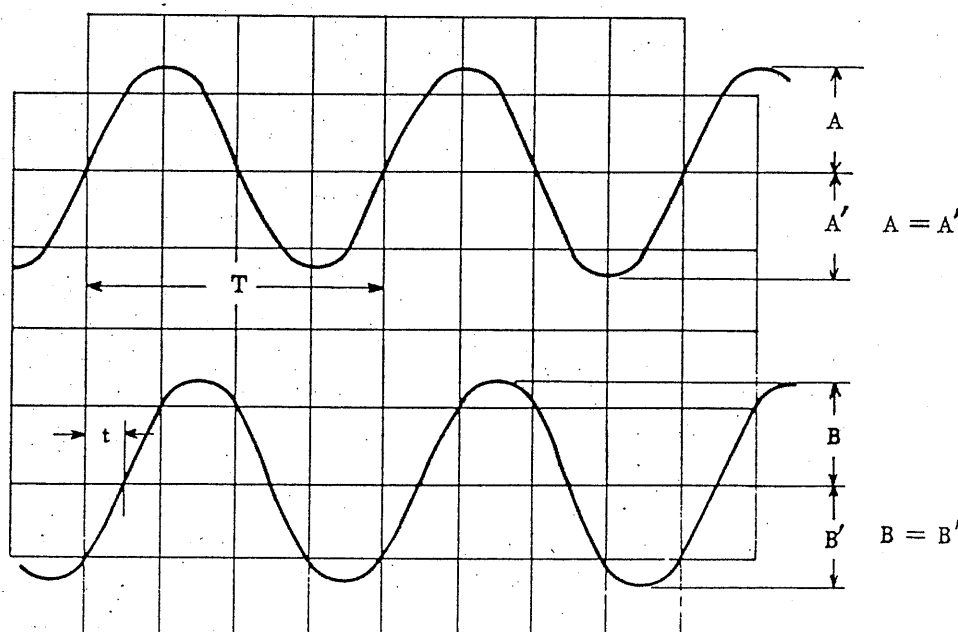

Fig. 20
Set the MODE switch in the DUAL state (10), and connect to CH1 the signal to be used for reference and to CH2 the signal to be measured. So adjust the oscilloscope that it displays signals as shown in Fig. 20.